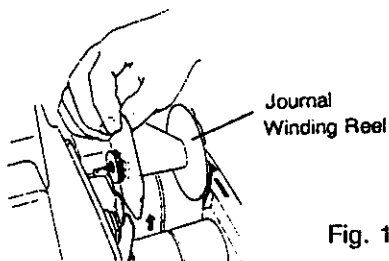

Fig. 1
2. Remove the Paper Cover, and remove the Journal Winding Reel (Fig. 1).